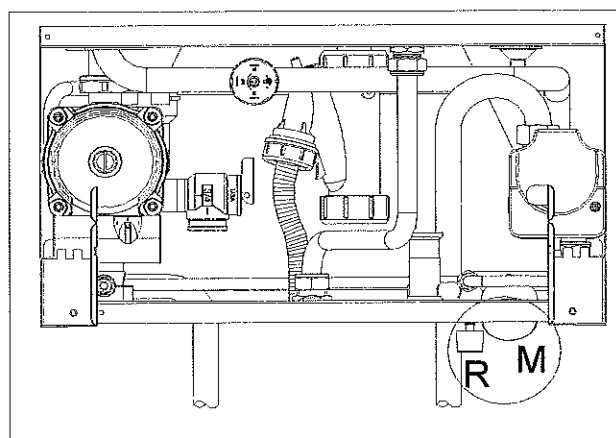

Fig. 2
- Use the pressure gauge **M** (fig. 2) to check that the system pressure reaches 14 psi (1 bar) and that the code H2O does NOT appear on the control panel display (see 2.7 section 'Control Panel');
- turn the system drain tap RS (see fig. 2) and use a container to collect the water that runs out;